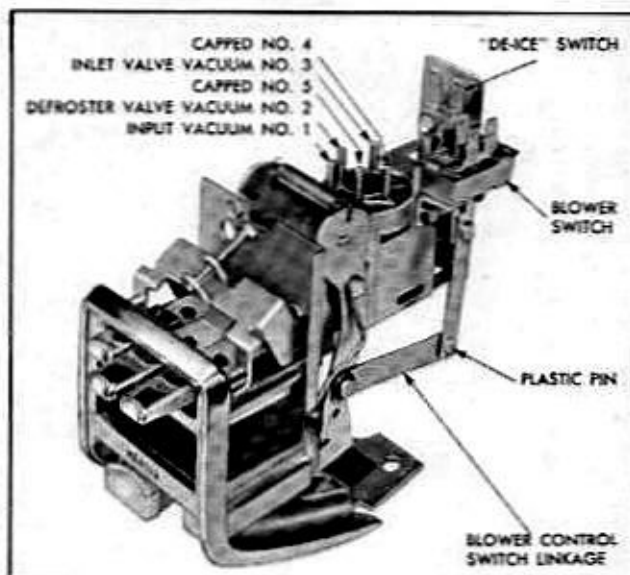

Fig. 1-22 Blower Control Linkage at Control Panel
2. Remove blower switch arm plastic rivet. Push the plastic center pin (Fig. 1-22) out of the plastic rivet and then the rivet can be slid out of the switch lever.
4. Replace heater blower switch (connecting arm with the plastic rivet by inserting the rivet and then the plastic center pin, Fig. 1-22).